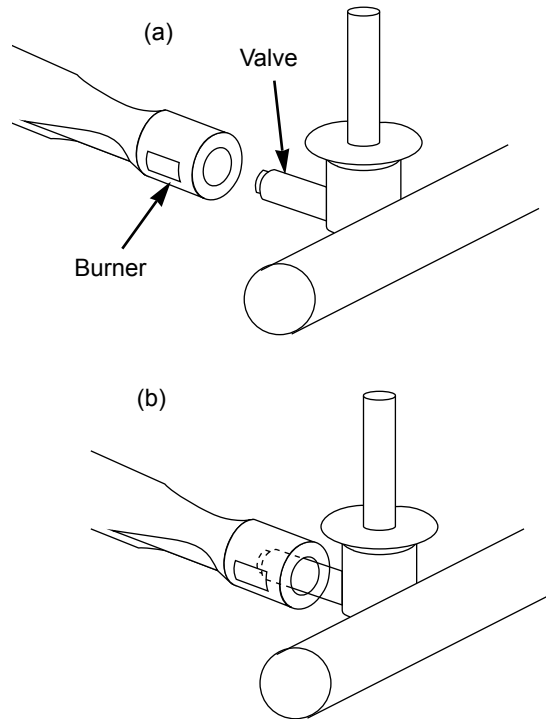

**Figure 17**
- g) Lift and twist the burner assembly slightly, to separate the crossover tube from the burners. Figure 17. Remove the burners from the cooking box.